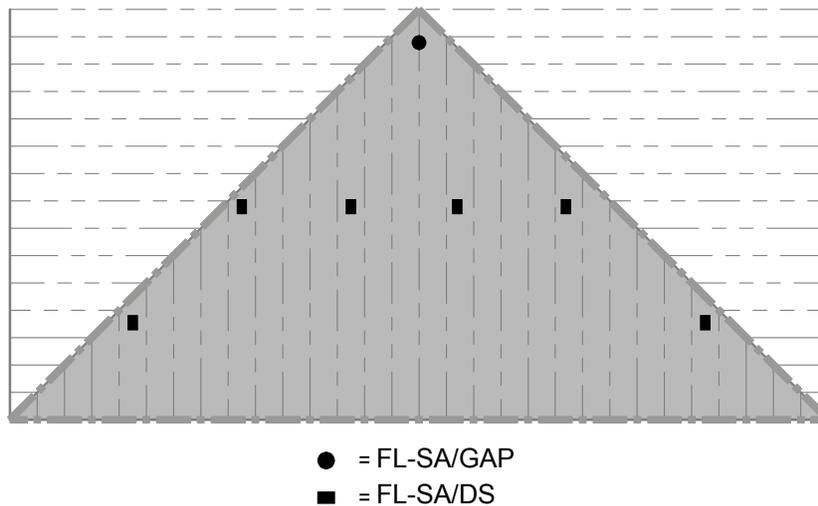

FIGURE 21: HYDRAULIC CALCULATIONS REQUIRED FOR DS @ HIP (FRAMING MEMBERS PARALLEL TO SLOPE)
- Calculate all sprinklers within the hip area shown shaded. See Figure 21.